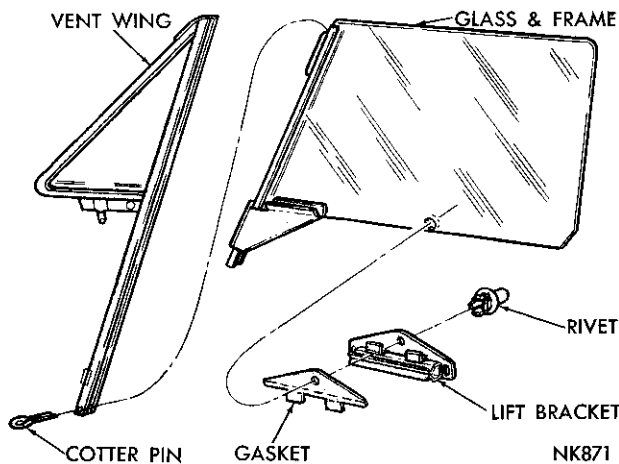

Fig. 65—Glass Lift Bracket
- (8) Remove the plastic rivet attaching the lift bracket and guide assembly to the glass and remove the assembly (Fig. 65).
- (1) Position the lift bracket and gasket on the door glass and install the retaining rivet (Fig. 65).
- (2) Assemble the door glass to the vent wing assembly and install the cotter pin at the lower end of the division channel.
- (3) Lubricate the sliding surfaces of the lift bracket.
- (4) With the regulator in the fully down position, install the vent wing and door glass assembly into the door and position the vent wing pivot swivel assembly into the vent wing regulator.
- (5) Position the regulator arm roller into the glass lift bracket and move the glass rearward into the glass run channel.
- (6) Install the ventilator attaching screws at the face and belt line areas of the door.
- (7) Install the vent wing pivot swivel to regulator screw.
- (8) Install the front end of the glass run at the forward end.
- (9) Adjust the door glass and test for ease of operation.
- (10) Install the watershield, trim panels and inside handles.